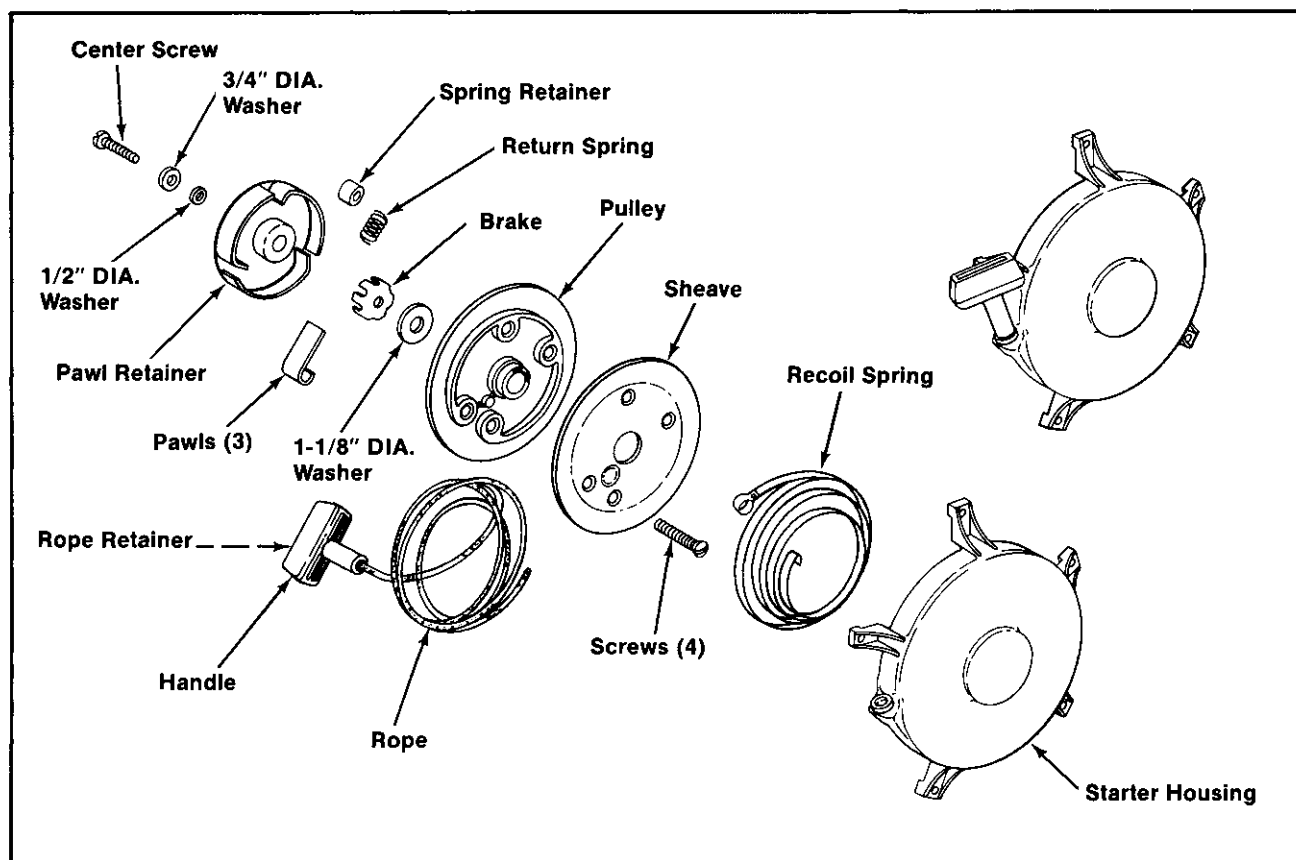

Figure 7-10. Exploded View—Retractable Starter For Models M10, M12, M14, and M16.
2. Replace all worn or damaged components. Use only the genuine Kohler replacement parts specified in the appropriate Parts Manuals. All components shown in Figure 7-10 are available as service parts. Do not use nonstandard parts.